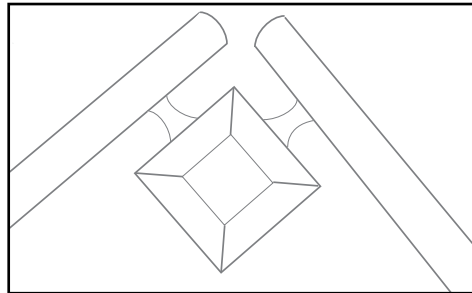

Fig. 12
- Dry fit the two Hand Rail lineals. The Hand Rail lineals to be joined should extend far enough to allow for scribing and final cutting - Fig. 12.